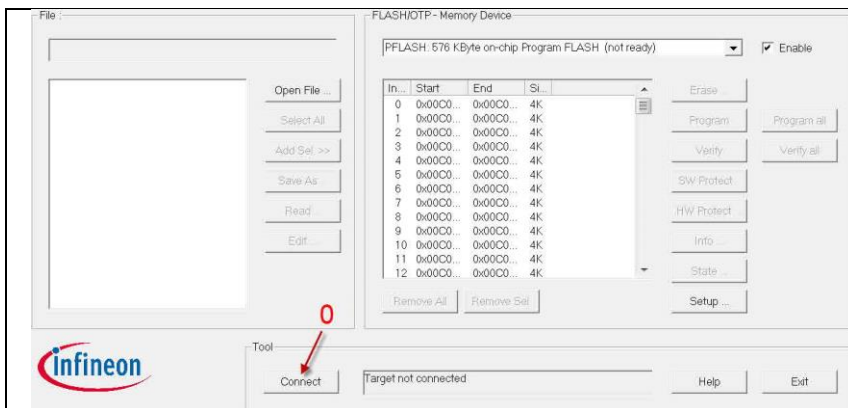
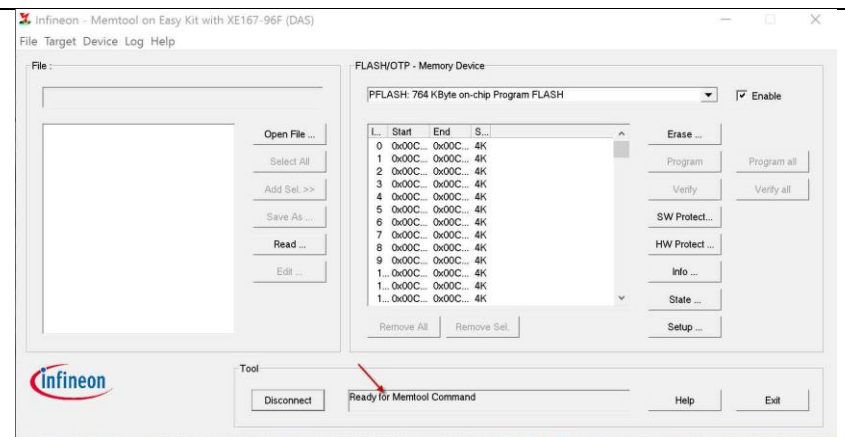

Figure 83
Figure 84
1. Press "*Connect*" button [0] in Figure 83. Confirmed "*Ready for Memtool Command*" is displayed in Figure 84.